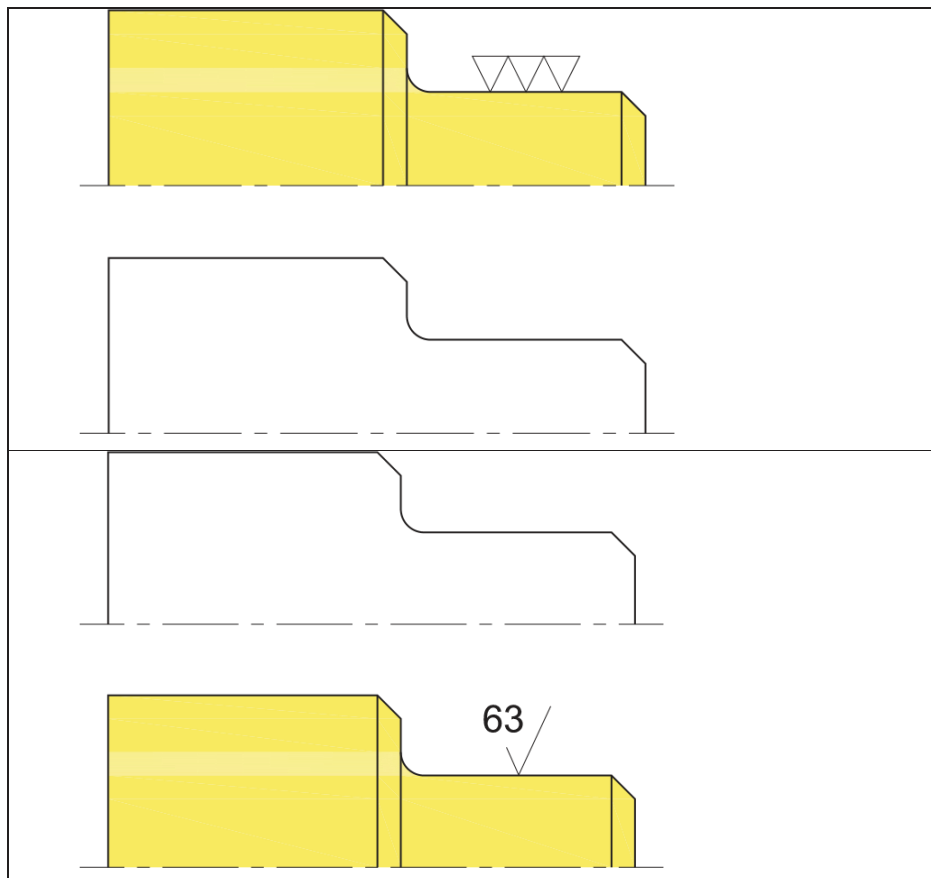

Figure 6-4
0.001 mm . Symbol for a micron is the Greek letter. Some drawings use standard symbols - Figure 6-4.